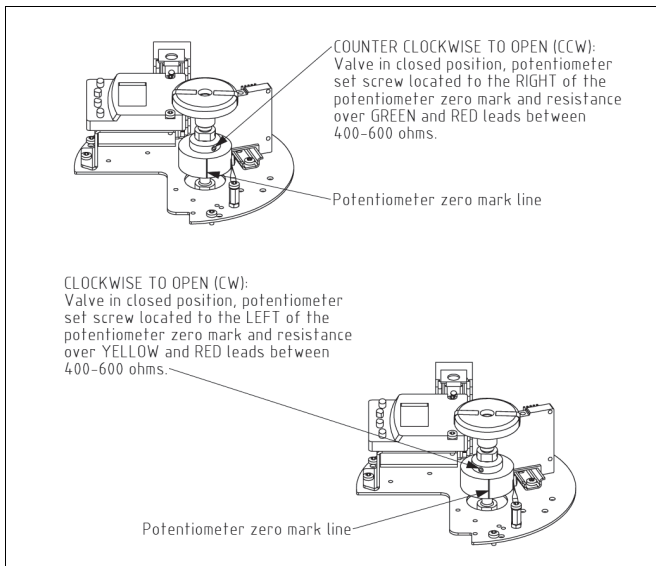

Fig. 38 Potentiometer operation.
- ❑ Adjust the potentiometer unit to correct angle by rotating the inner section of the potentiometer (smaller diameter cylindrical part on top side of the potentiometer unit). The correct angle depends on the valve operation orientation; CCW or CW to open (see Fig. 38). The centerline mark on the potentiometer side helps aligning the potentiometer for initial position. Make sure that the valve and axis stay stationary in closed position when adjusting the potentiometer orientation.